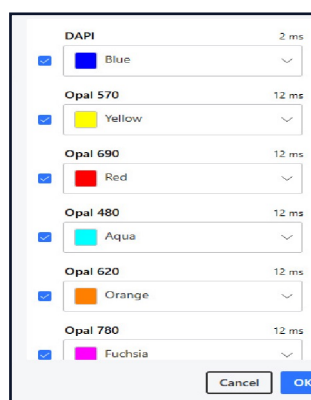

Figure 5.6. Set Filters window.
- After clicking the Select Bands button, the Select Filters Window opens, which allows one to choose the filters used to take the slide scan. (See Figure 5.6.) Imagery for each band will be taken in the order it is shown. To remove bands, uncheck the band. The colors associated with each band can also be changed; these are the colors that Phenochart will use to display the scan.